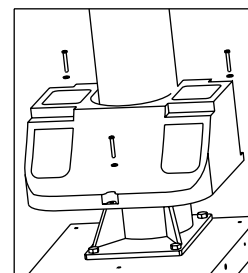

Figure 5-2
- Put the vertical arm on the machine cabinet (figure 5-2).
- Mount washers (6) lock washers (5) and screws (4), tighten the screws, mount box(3) washers(2) and screws(1)(figure 5-2).